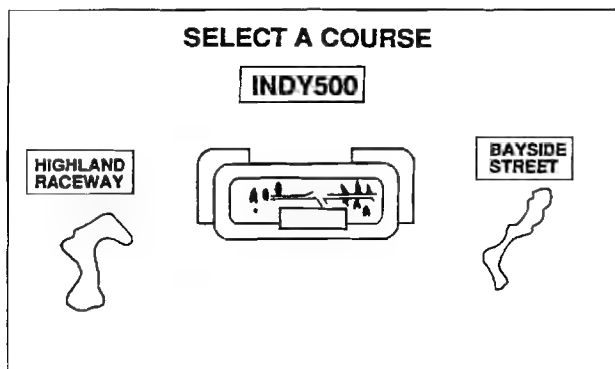

FIGURE 16: COURSE SELECTION
2. The Course Select screen (see Figure 16) showing "INDY 500", "HIGHLAND RACEWAY" and "BAYSIDE STREET" appears. The courses are described in Table 3. Turn the steering wheel to select the course, and make the selection by stepping on the Gas Pedal or pressing the Start Button. (See Figure 18 for control locations.) If the game is played in linked mode, the course selection is determined by a majority of the players, or, in the case of a tie, the course is selected from the tied courses in the order listed above.